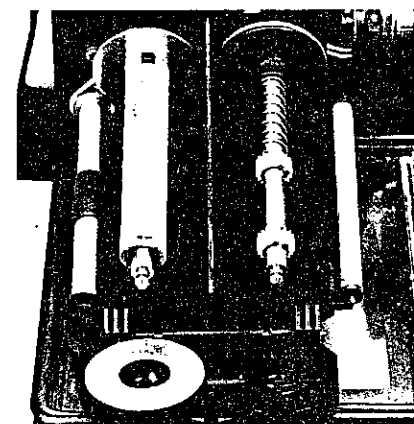

Figure 28
6. Pull the empty supply core from the right side in the same manner. Install the empty core onto the take-up shaft. (See Figure 28.) Align the two notches in the core with the tabs on the lower take-up spool.